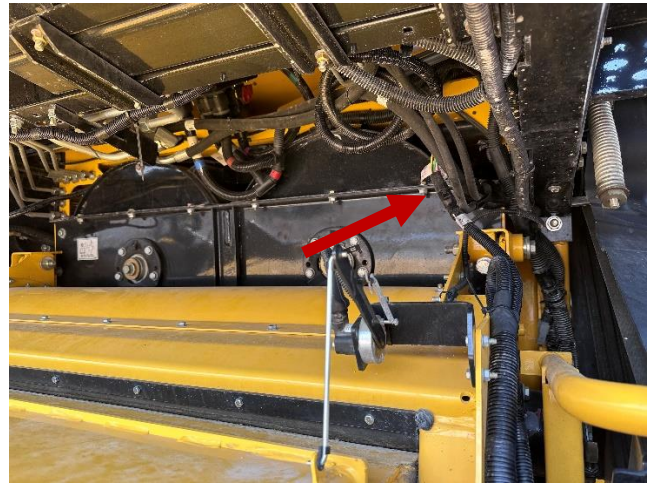

Figure 4.57: In Cab Harness Routing
3. Connect C79B on the In Cab Harness to C79A on the Battery Power Harness shown in Figure 4.57.